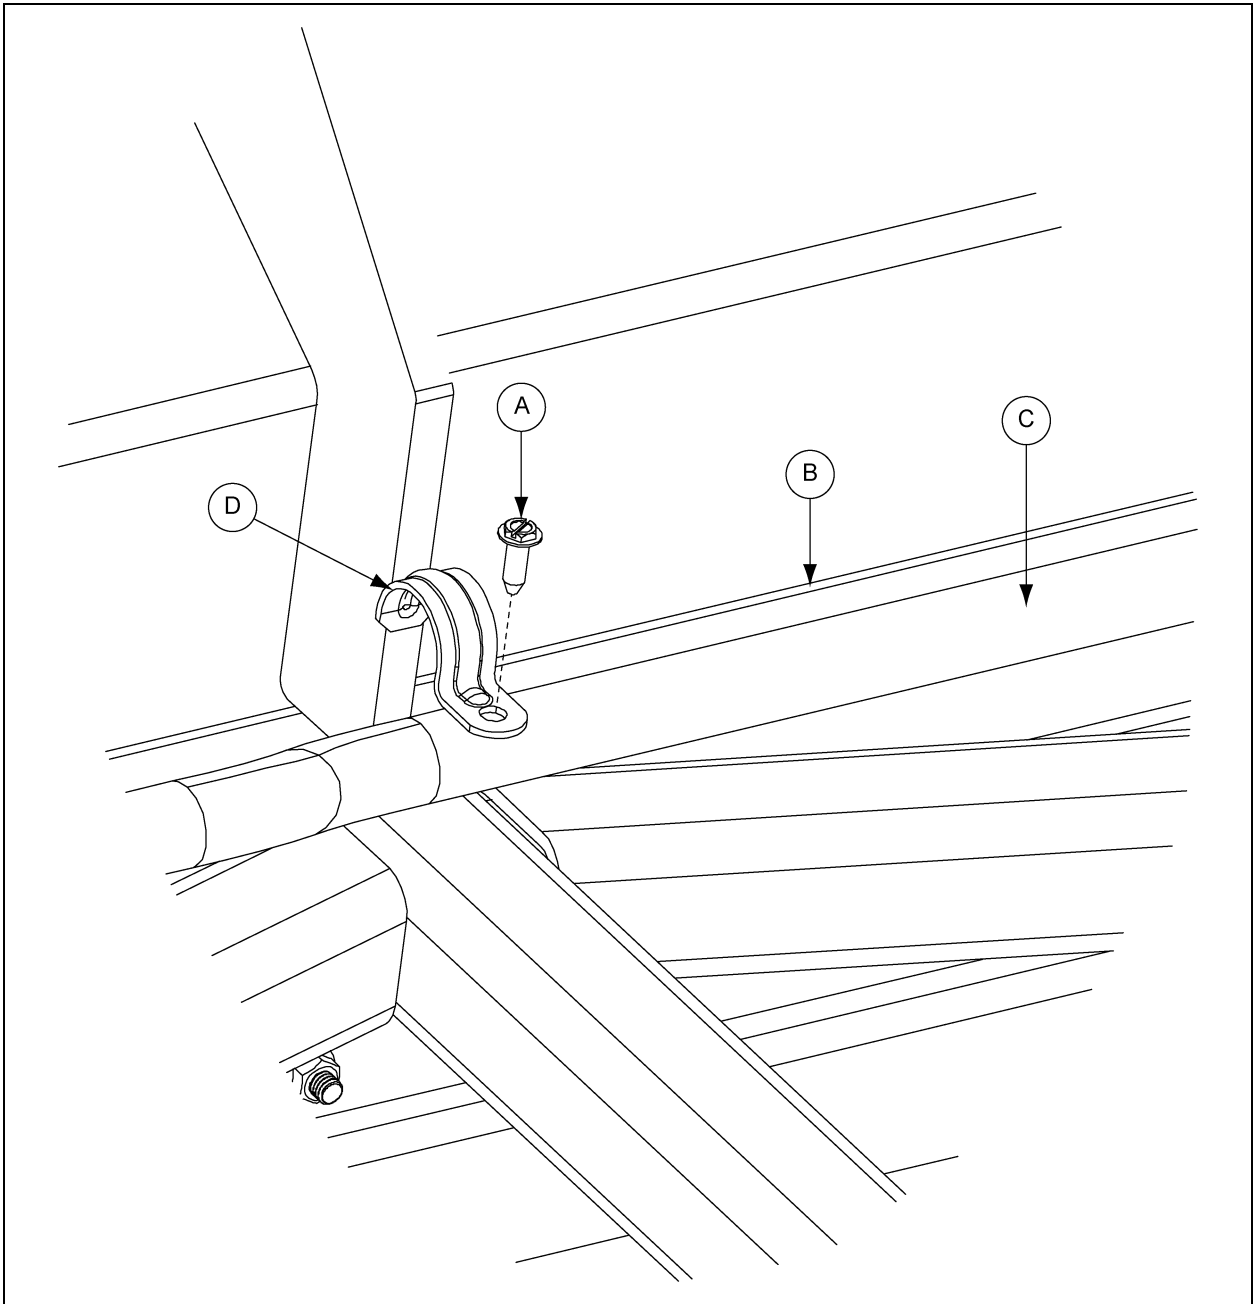

Figure 8P
1. Install conduit (C) to sweep shield (B) using clamps (D) and screws (A). *(See Figure 8P.)*